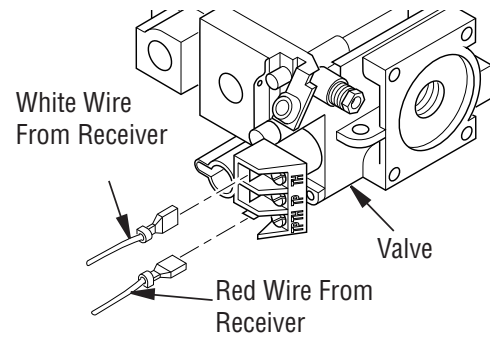

Figure 27 - Connecting Wires
5. Connect wires as shown in **Figure 27**.